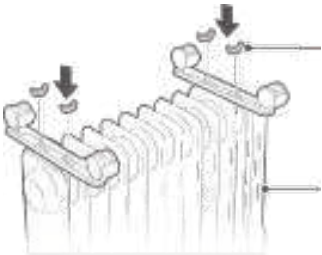

figure 2
- 3. As shown in figure 2, two sets of caster components are tightened with four butterfly nuts. Install solid and then put the heater in place-just put the wheels on the ground.